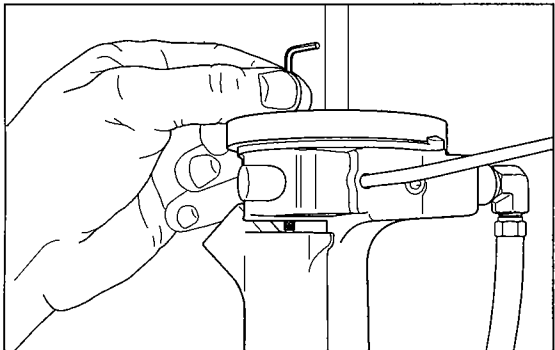

Figure 3
4. Remove Intensifier Pot Assembly (Ref. Items 24, 25 & 52), Intensifier Piston Assembly (Ref. Items 23, 56 & 57), and unscrew Set Screw (Item 48) until flush with surface of handle. (Item 36). (See Figure 3)